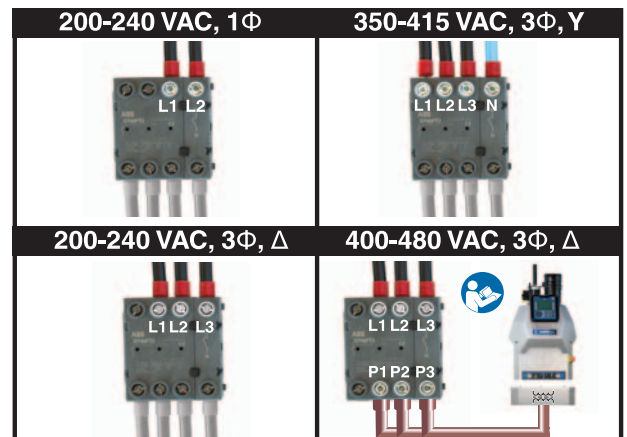

FIG. 14
7. Connect power wires as shown in FIG. 14. Not all models use all 4 wires.